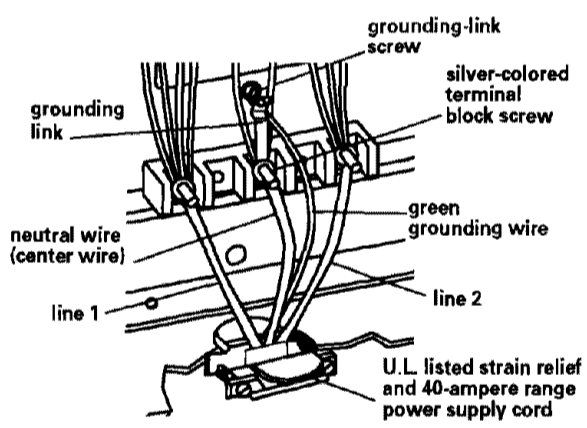

Figure 5
8. Connect the green grounding wire from power supply cord to the range using the grounding-link screw. The grounding wire must be attached first and must not contact any other terminal. See Figure 5.
9. Connect the neutral wire (center wire) to the center, silver-colored terminal screw on the terminal block using the brass terminal nuts that are attached to the inside of the terminal block cover. See Figure 5.
10. Connect the other two wires to the outer terminals on the terminal block. See Figure 5.